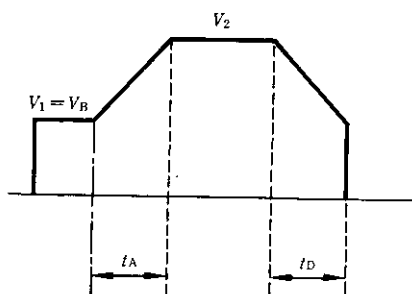

Fig. 4.7
2. In Fig. 4.7, t_A is set with linear accel time ($t_A = t_D$)